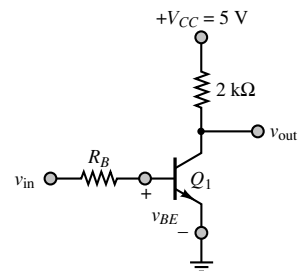

Figure P10.45
- 10.45** In Figure P10.45, the minimum value of v_{in} for a high input is 2.0 V. Assume that transistor Q_1 has a β of at least 10. Find the range for resistor R_B that can guarantee that the transistor Q_1 is on.